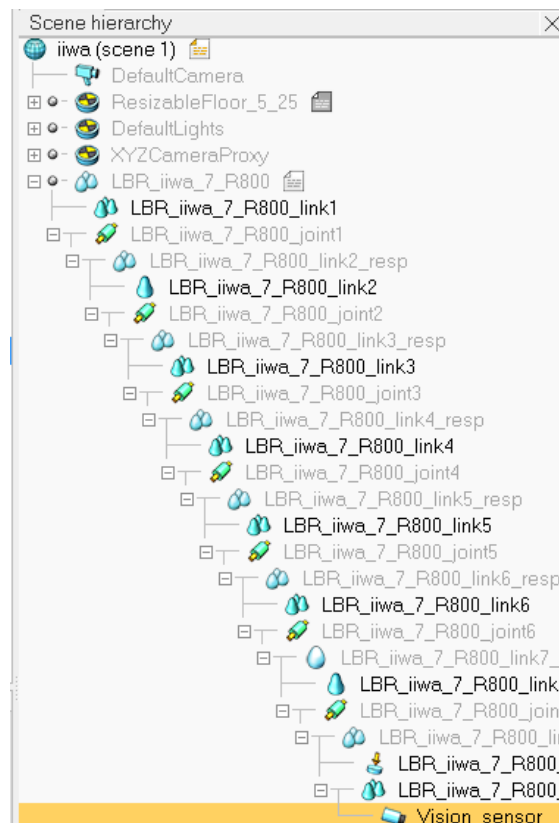

Figure 7.2: Kuka with vision sensor
- Could also happen that the model is not placed on the correct link. To solve this just drug and drop it in the correct location into the scene hierarchy. You scene hierarchy must be similar to the one show in Fig. 7.2.